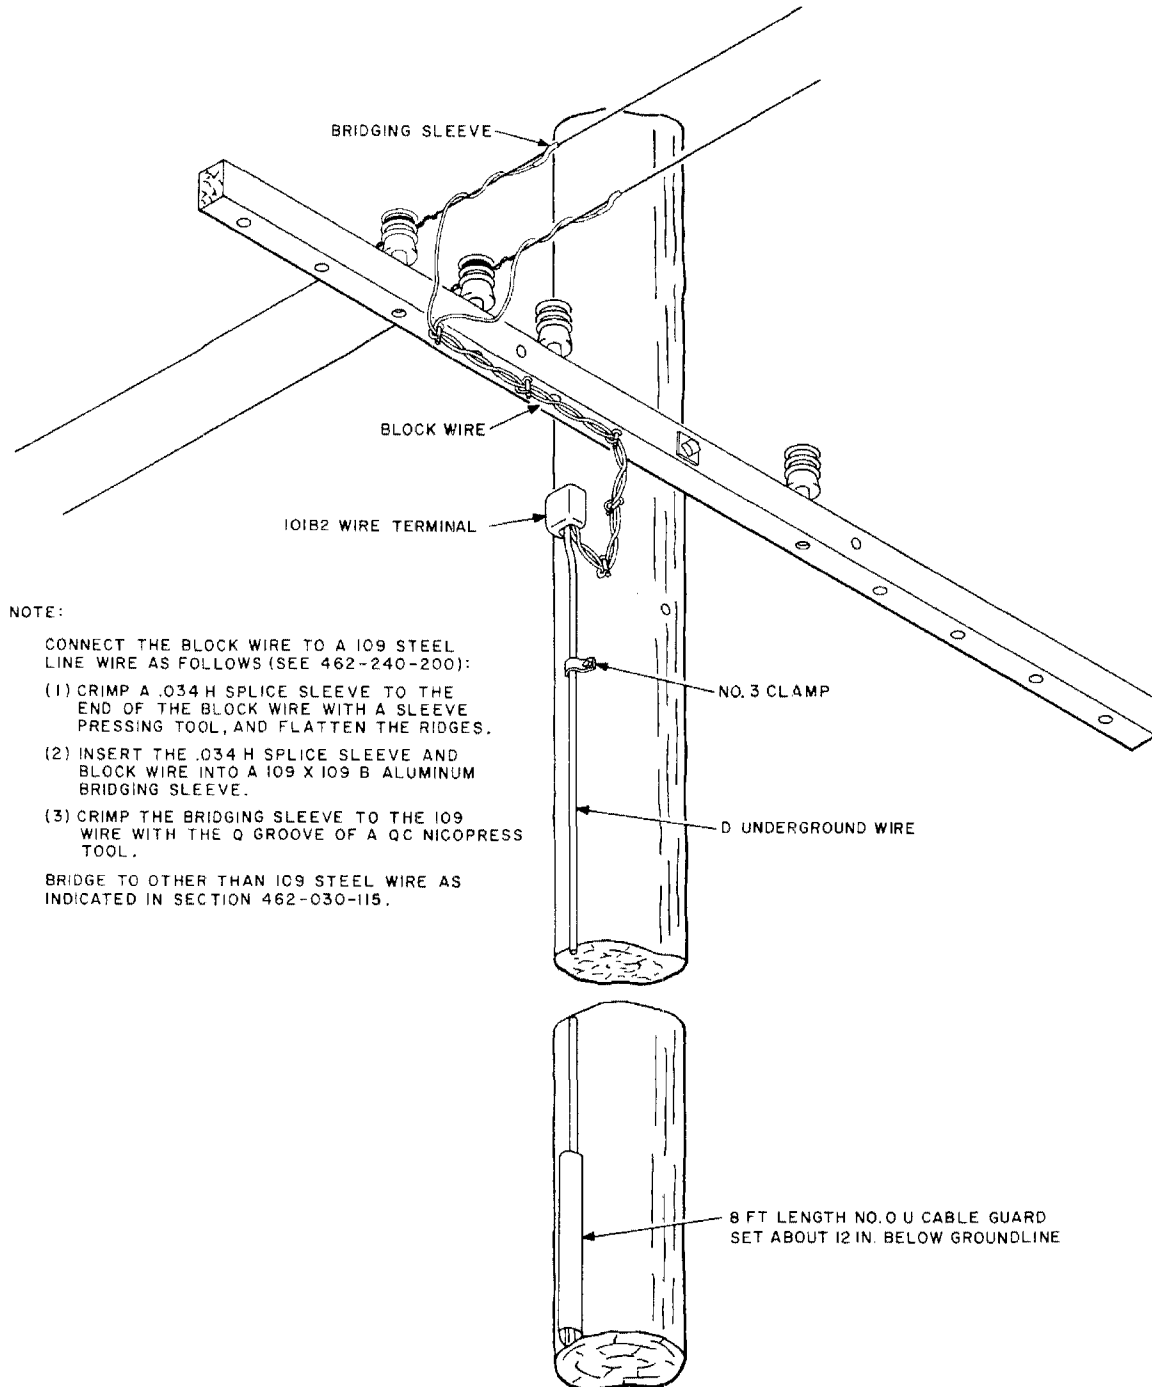

Fig. 8—Termination of Underground Wire and Open Wire
5.02 At the junction with open wire, D Underground Wire can be brought up a pole and terminated in a 101B2 Wire Terminal. At the groundline the wire should be covered with an 8-foot length of No. 0 U Cable Guard. The armor wire should be cut off as shown in Fig. 3. Block wire must be used between the protector and the open wire. A typical installation is shown in Fig. 8.